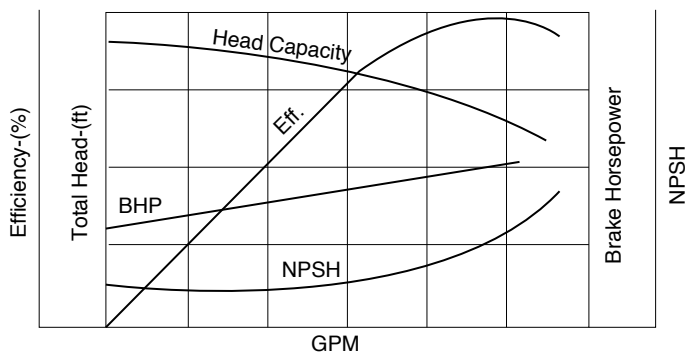

FIGURE 49. Overall Rating Curves
- By plotting all of the above-mentioned characteristics on one coordinate system, the capabilities and limitations of a particular pump can be completely defined (Figure 49).